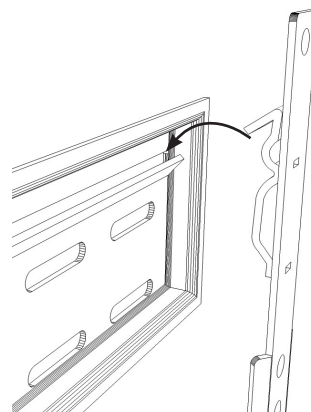

Figure 7
- a. Carefully lift the TV and place arm hooks over and onto angled lip in Wall Plate (Figure 7). Do not release the TV until it is completely connected to the Wall Plate.